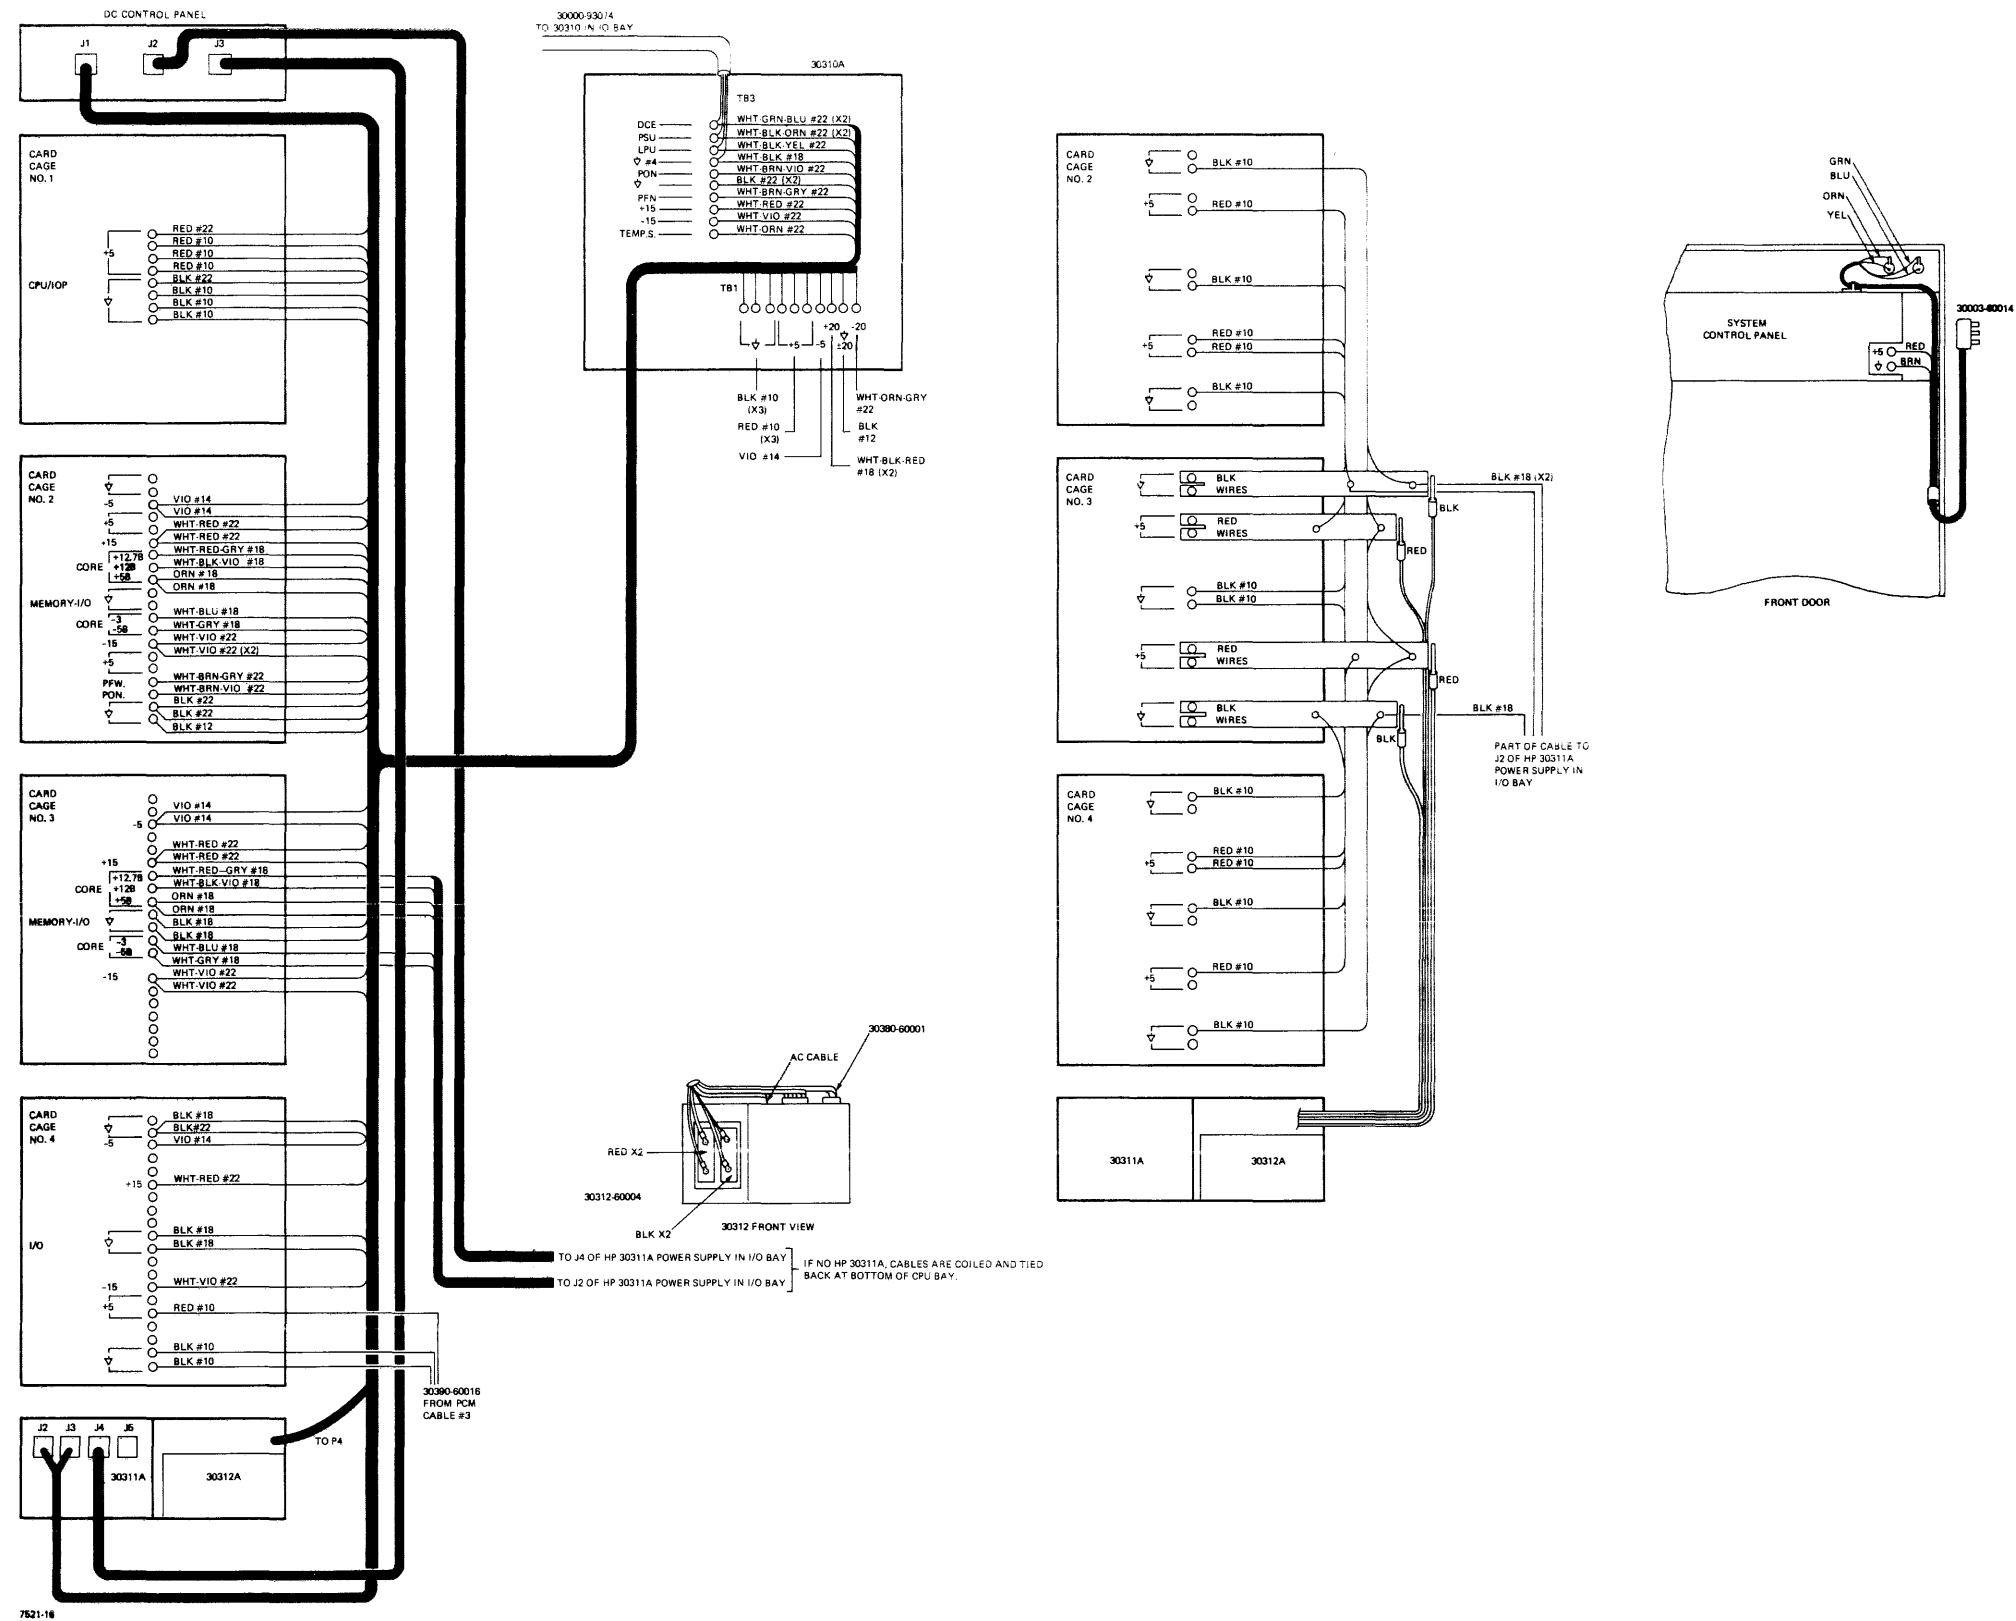

Figure 4-10. Control Processor Unit Cabinet, DC Wiring
The DC voltage distribution is shown in Figure 4-10. The left side of the figure shows the distribution of the outputs of the HP 30310A and HP 30311A Power Supplies. The distribution of 5-volt outputs of the HP 30312A Power Supply is shown on the right side of the figure. If the wiring and connections shown on the right were taken and superimposed on the wiring and connections shown to the left (like an overlay), the resultant combination would be representative of the actual wiring configuration.
- a. The three +5 "volt" terminals and the three associated ground terminals of terminal strip TB1 are connected to six of the eight terminals on the back of the CPU card cage. Positive 5 volts and ground are routed from the CPU terminal strip to connector J1 on the DC Control Panel to provide an indication of DC power on and for further routing from the front of the DC Control Panel via cable 30003-60014 to the front door logic (System Control Panel). See the upper right of Figure 4-10. Cable 30003-60014 also carries BATTERY STATUS indications to the indicators on the front door.
Figure 4-10 to power card cage No. 3. The top terminal extenders serve as jumpering points to carry 5 volts and ground to card cage No. 2 and the bottom terminal extenders serve as jumpering points to furnish 5 volts and ground to card cage No. 4.